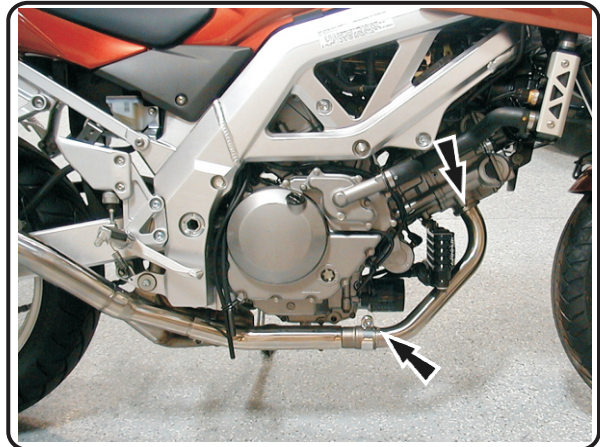

Fig. 1
- 1 Remove stock front header (Unbolt exhaust flange and loosen exhaust clamp where stock front and rear header connect. See Fig.1 for fastener locations.)